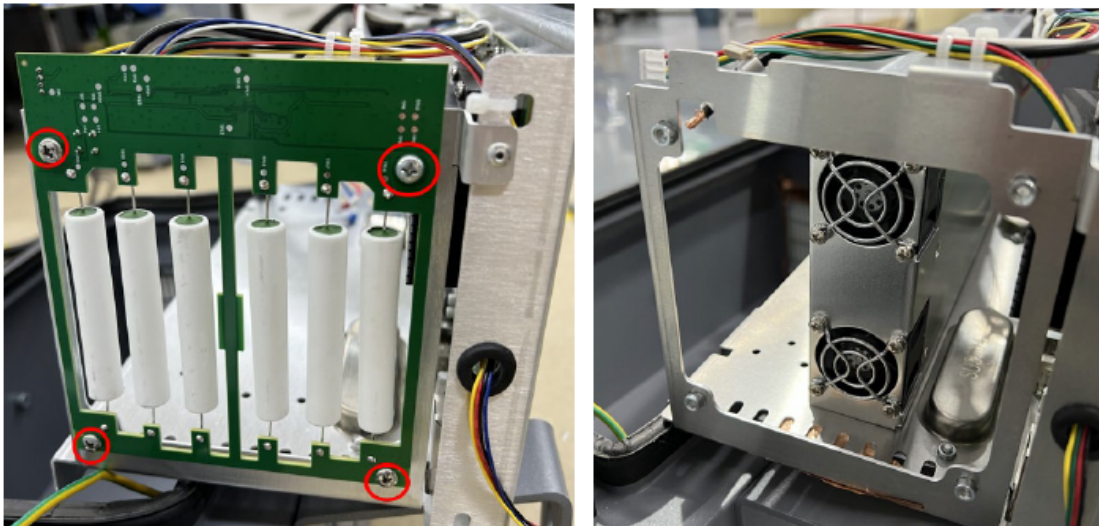

Figure 3-35 : Remove the brake board
3. Remove the 4 cross recessed pan head screws and remove the brake board that need to be replaced, as shown in **Figure 3-35** :